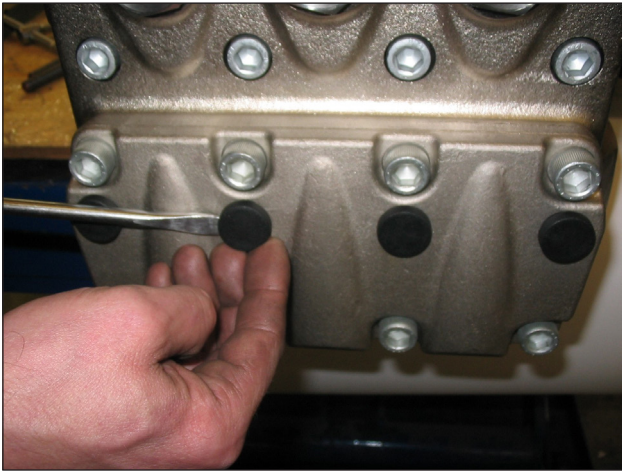

Fig. 41
- Remove the 4 plugs closing the suction valve cover holes (Fig. 41).